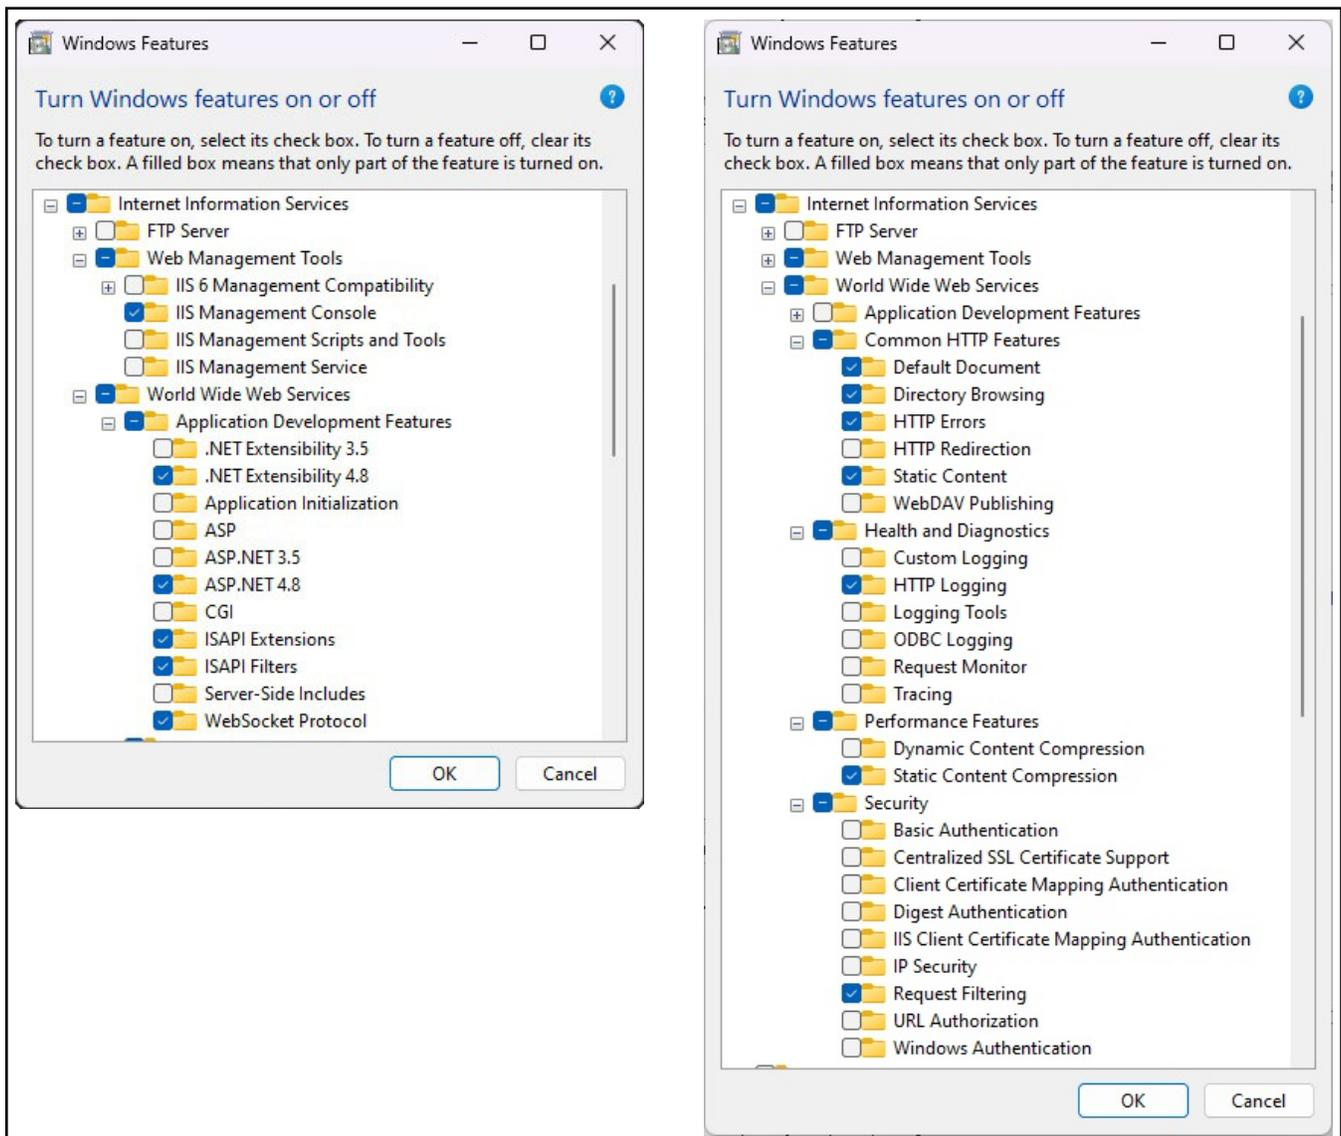

Figure 2-6. Windows Features Configured
- Windows Features window displays (see Figure 2-6 on page 12).
- B.2 Expand **Internet Information Services** tree and enable check boxes as displayed in Figure 2-6.